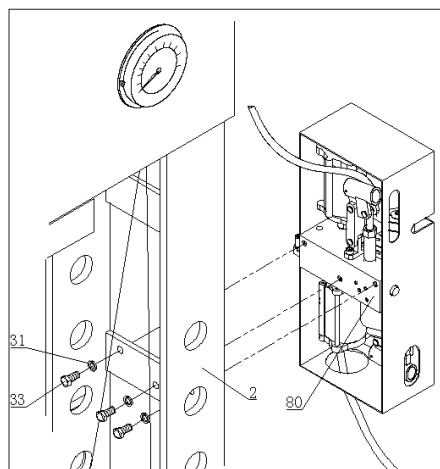

Fig.09
- Move the pump assy, Fig.07 (CP86750), Fig.09 (CP86100),to the outside of the post, use bolt and washer which dismantled just now to twist tight on the right connecting plate .